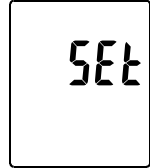
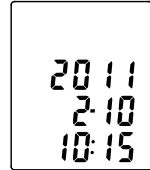

Fig.6
Fig.7
- (1) Turn off the unit.
- (2) Enter SETUP mode by pressing and holding  button and then press  power button to turn on the unit. "SET" blinks on the LCD screen. (see Fig.6)
- (3) Press CLOCK  button to set clock.
- (4) Press  () or  () to adjust year, press CLOCK  button to adjust next value (month →date→hour→minute). (see Fig.7)
- (5) When finish, press CLOCK  button to exit SETUP mode.
- (6) Select “Launch the CP210x VCP Driver Installer” option, then click Finish. (see Fig.6)
- (7) Click Install.
- (8) After finish installing USB-120 connector driver, it will install SE374 software automatically. It will copy SE374.exe ( executable file ) and help file to your hard disk ( default is c:\program files\SE374)
- (9) After finish installation, plug USB-120 connector to PC usb port, execute "start"→ "My Computer", then choose "View System Information" on the left top of the window, the window below will show up.(see Fig.7)